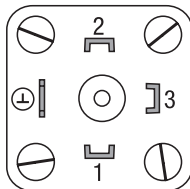

Fig. 19 Wiring of level electrode with four-pole connector
6. Run cable through cable gland **16** and upper part of the terminal box **11** and wire terminals of the connecting plate **12** in accordance with wiring diagram. **Fig. 19**